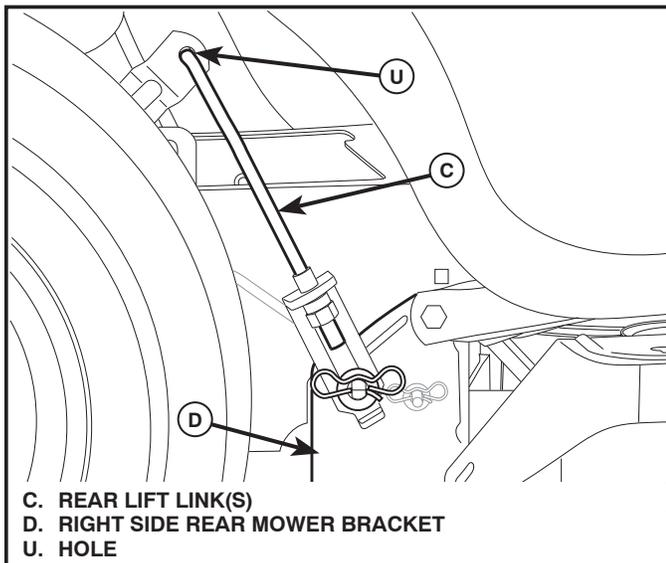

Fig. 34
## 7. ATTACH REAR LIFT LINKS (C) (See Fig. 34)
- Insert rod end of rear lift link (C) into hole (U) in tractor lift shaft suspension arm and pivot link down to mower.
- Lift rear corner of mower and position slot in link assembly over pin on rear mower bracket (D) and secure with large washer and large retainer spring.